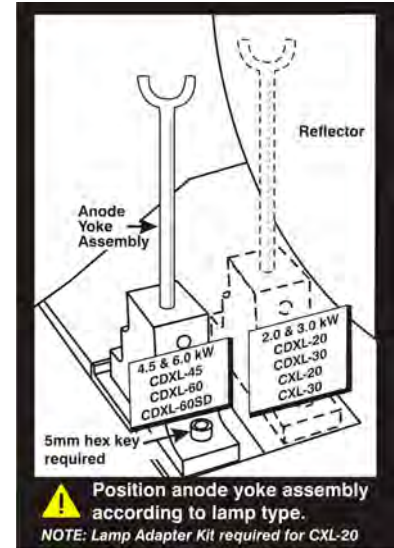

Figure 5-58 Anode Yoke
- b. If you are installing a different type of lamp from the original, ensure the correct position of the anode yoke. **(Figure 5-58)**